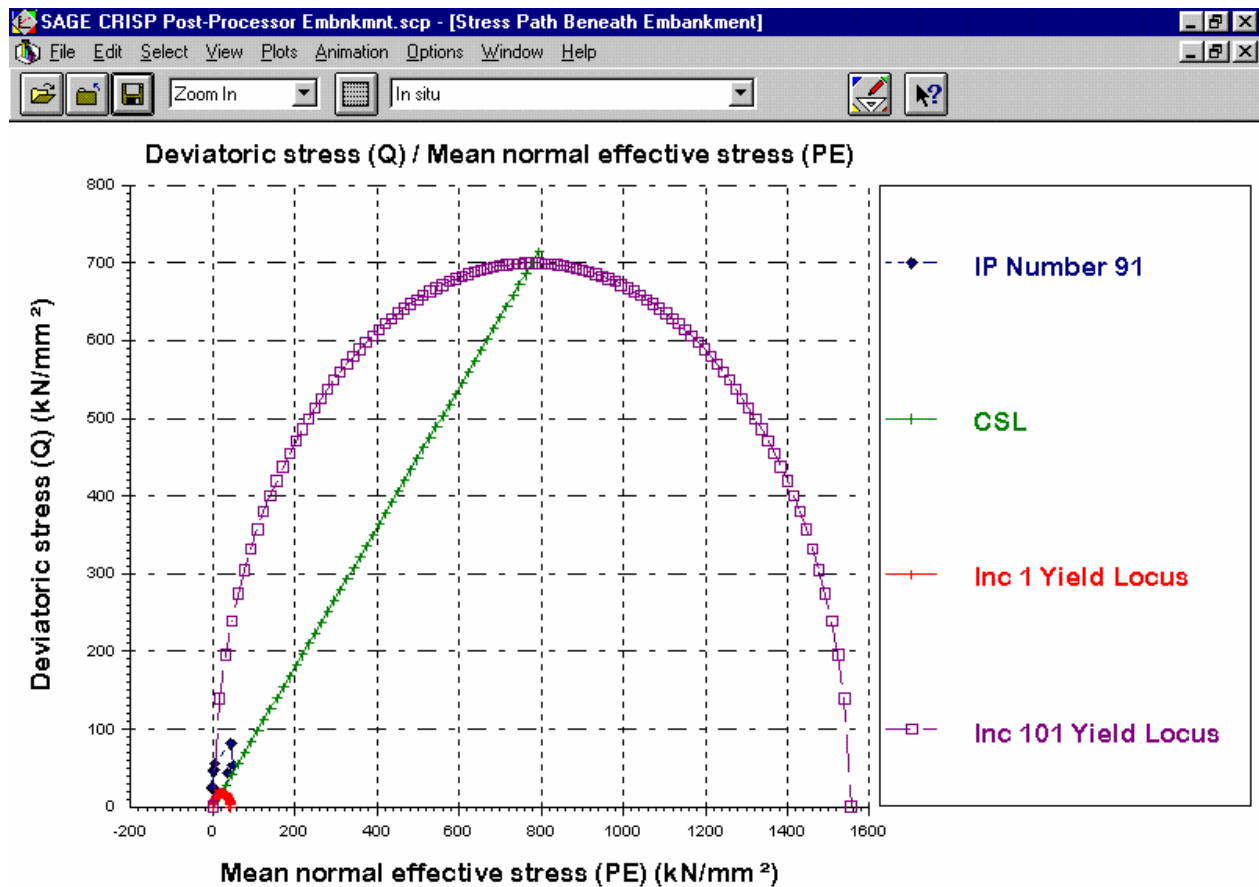

Figure 6-41: Stress Path Plot for a Point Beneath the Embankment
- Step 8** Click on **OK** to exit, once you have finished. The graph displayed should look similar to Figure 6-41.